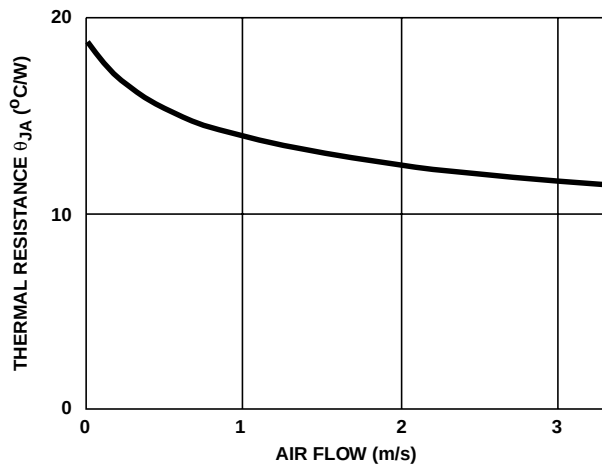

FIGURE 2. THERMAL RESISTANCE MOUNTED ON-BOARD
5. T_A is specified in still air and without heatsink. To extend temperature range, appropriate heat management techniques must be employed (See Figure 2).**Timing Diagram**